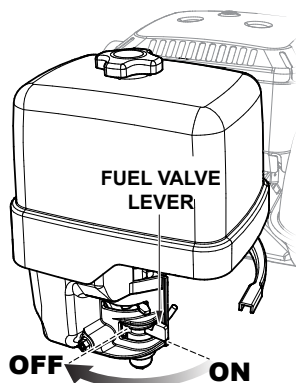

Figure 23. Fuel Valve Lever (OFF)
3. Place the fuel shut-off lever (Figure 23) in the **"OFF"** position.